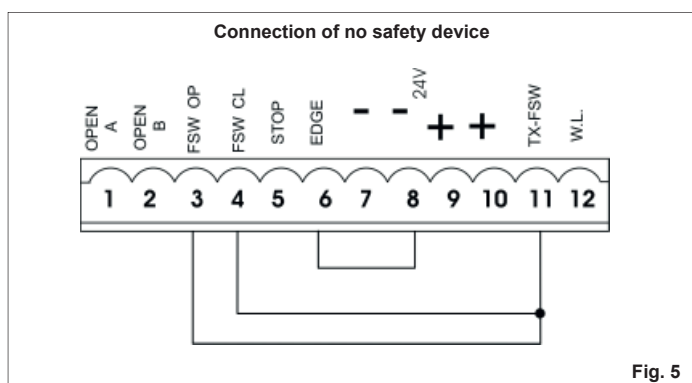

Fig. 5
If safety devices are not used, jumper connect the terminals as shown in fig. 5.
**If no opening safety devices are connected, jumper connect inputs OP and -TX FSW (fig. 5).**
**If no closing safety devices are connected, jumper connect terminals CL and -TX FSW (fig. 5).**
**If edge safety devices are not connected, jumper connect the EDGE and - inputs. (fig. 5).**